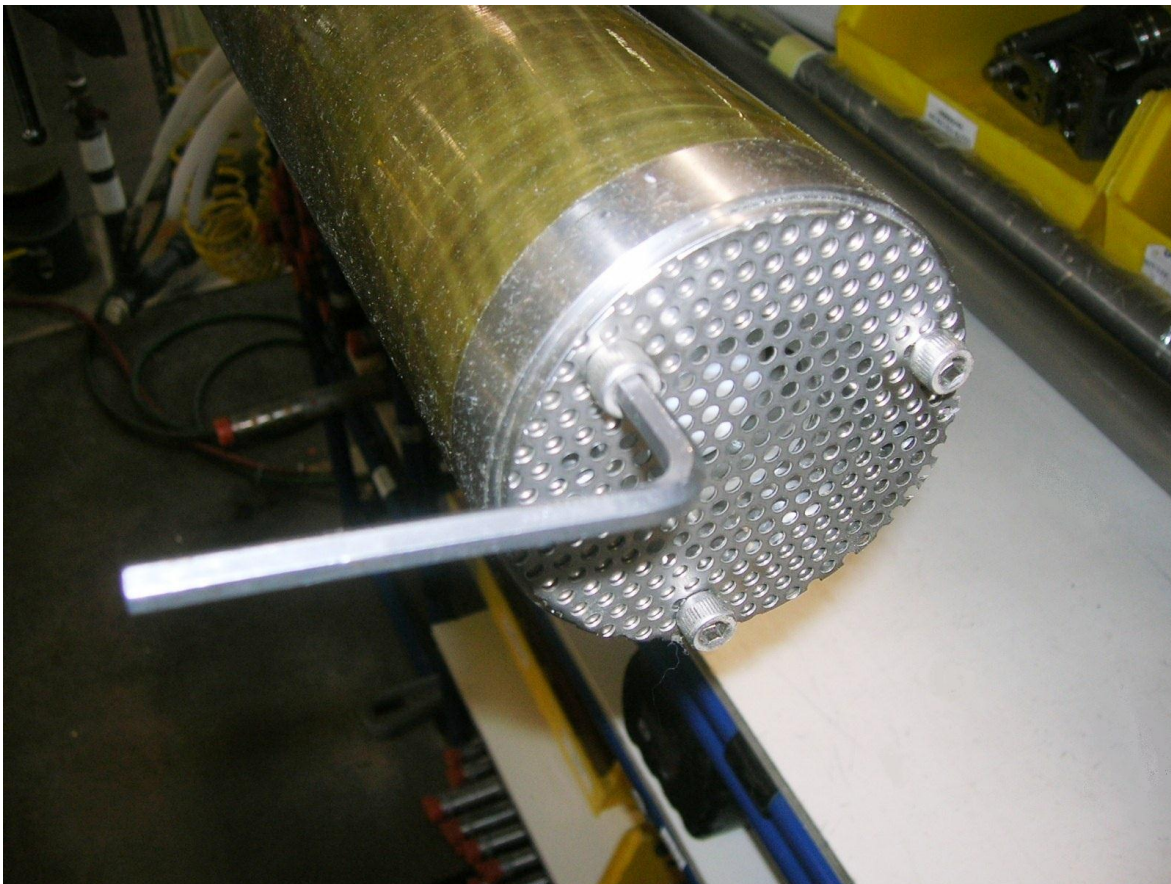

Figure 4-1
Remove the (3) cap screws holding on the intake screen (Figure 4-1). This is done with a 3/16" Allen wrench. If you have a top fill only reclaimer there will not be a screen (Figure 4-2). Use a spanner wrench to remove the bottom intake assembly or bottom plug, as the case may be (Figure 4-3).